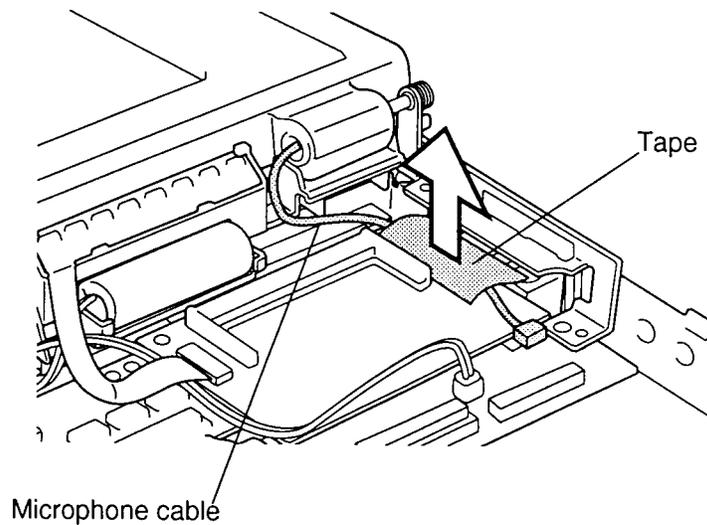
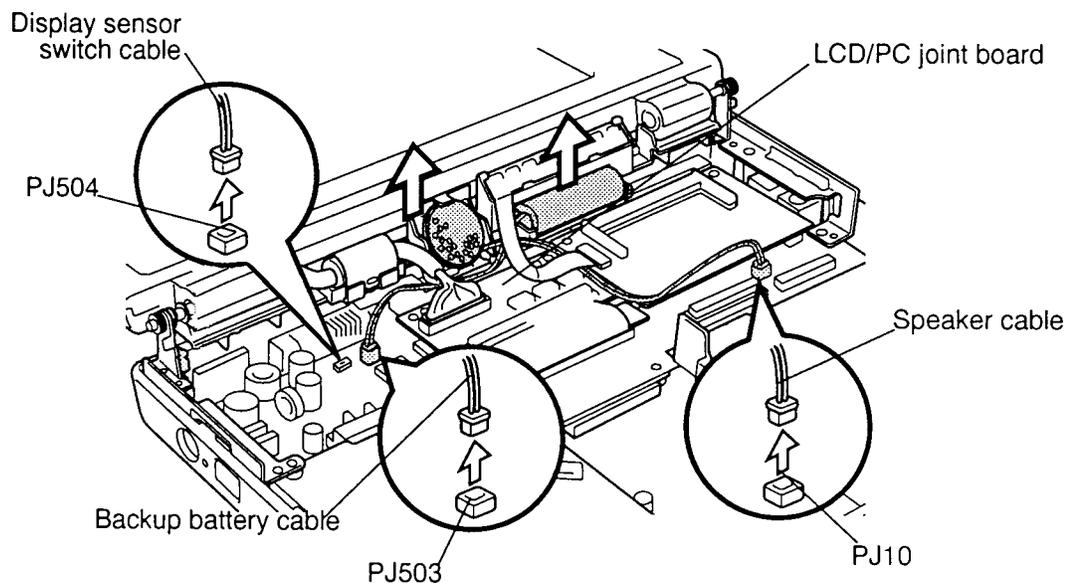
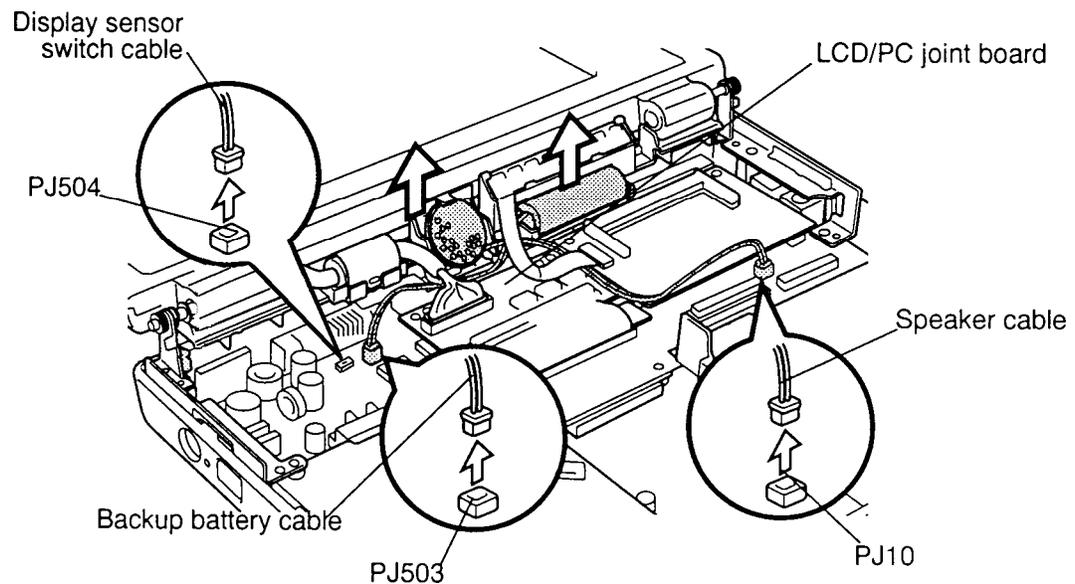

Figure 4-18 Peeling off the tape
Figure 4-21 Removing the cable
Figure 4-21 Removing the cable
To remove the internal microphone from the T2400CS/T2400CT, follow the steps below and refer to figures 4-18, 4-19, and 4-20.
3. Peel off the **tape** securing the internal microphone cable (figure 4-18).
To install the T2400CS/T2400CT's display mask, follow the steps below and refer to figures 4-18 through 4-20.
5. Replace the tape securing the internal microphone cable (figure 4-18).
To remove the T2400CS/T2400CT's display assembly, follow the steps below and refer to figure 4-18 and figures 4-21 through 4-23.
3. Peel off the tape securing the internal **microphone cable** (figure 4-18).
4. Disconnect the **display sensor switch cable** from **PJ504** on the lower system board (figure 4-21).
To install the T2400CS/T2400CT's display assembly, follow the steps below and refer to figure 4-18 and figures 4-21 through 4-23.
5. Place the microphone cable beside the memory module socket on the memory board and secure it with tape (figure 4-18).